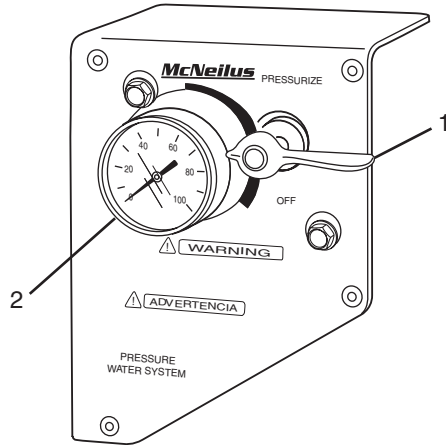

Figure 39
1. Turn air pressure control valve to the EXHAUST position (Figure 39, Item 1). Make sure the gauges (Figure 39, Item 2) read 0 psi.